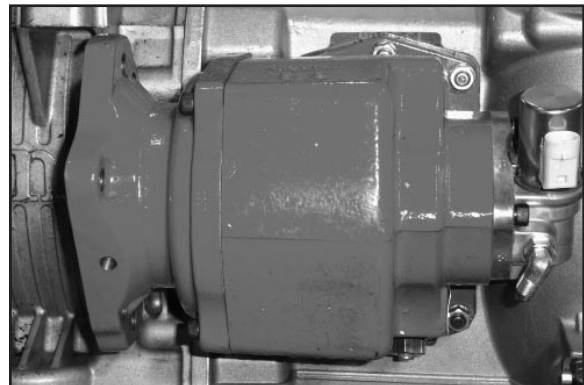

Fig. 7
7. Install the remaining capscrews. Torque all to 40 - 50 Lbs. ft. (54 - 68 N.m. or 5.5 - 6.9 Kg.m) (**Fig. 7**).